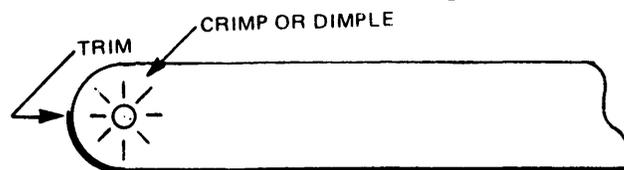

FIGURE C-48
2. Crimp the tape with a crimping tool or a Honeywell Tape End Cutter, which also performs this function (see Figure C-48).